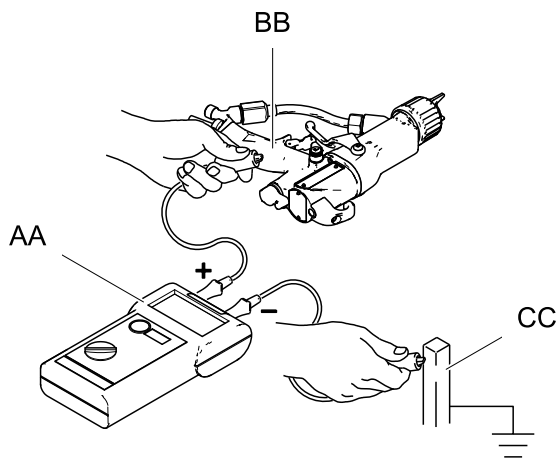

Figure 16 Check Gun Electrical Grounding
Megohmmeter Part No. 241079 (AA-see Fig. 16) is not approved for use in a hazardous area. To reduce the risk of sparking, do not use the megohmmeter to check electrical grounding unless:
2. Turn OFF (O) the ES On-Off switch.
6. Measure the resistance between the gun handle (BB) and a true earth ground (CC). Use an applied voltage of 500 minimum to 1000 volts maximum. The resistance should not exceed 1 megohm. See Fig. 16.